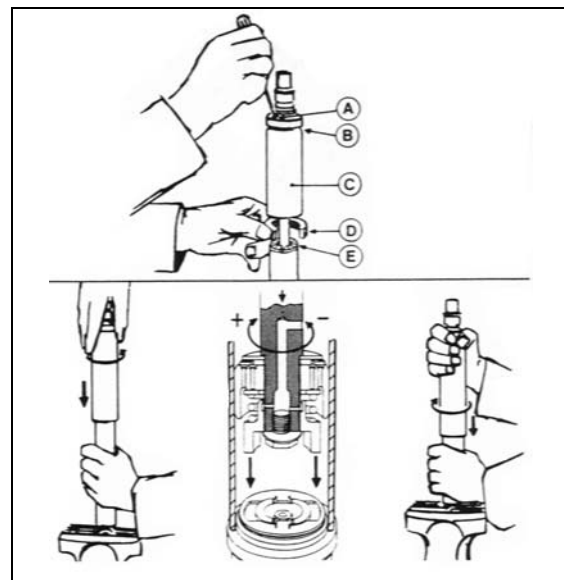

FIGURE 21: DAMPER
To adjust opening and closing cycle speed on damper (Fig. 21):
2. Fully close the damper while turning the dust cap or piston rod slowly CCW until it is felt that the cams of the adjusting nut engage in the recesses of the foot valve assembly (Fig. 21).
Note: In figure 21, if there is an indentation (B) in the dust cap (C) and the cover shows two holes (A), the damper is fitted with a bump rubber (D). If so, fully extend the damper and insert a round bar or screwdriver through the holes. Push the bump rubber down and remove. Remove the split plastic collar (E) (if fitted) from the piston rod.
Note: Where a bump rubber was installed, refit same inside the dust cap and by fully closing the damper, the rubber will seat again at top of the dust cap. Refit the split plastic collar E (Fig. 21)